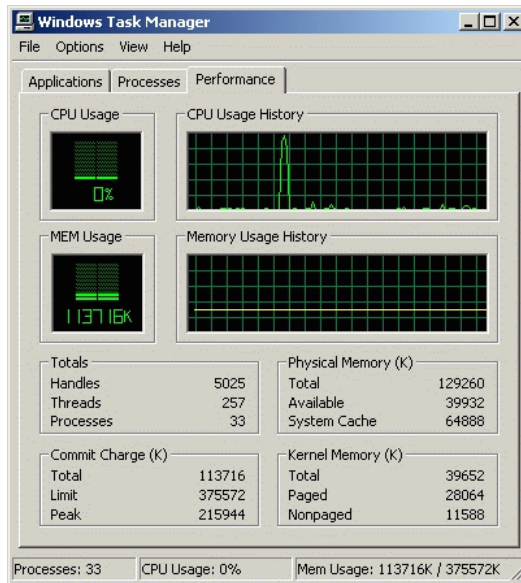

Figure 3-45 Windows Task Manager Dialog Box (Performance Page)
- b. Select *Task Manager*. The *Windows Task Manager* dialog box displays with the *Applications* page open by default. Click the *Performance* tab to open the *Performance* page (Figure 3-45).